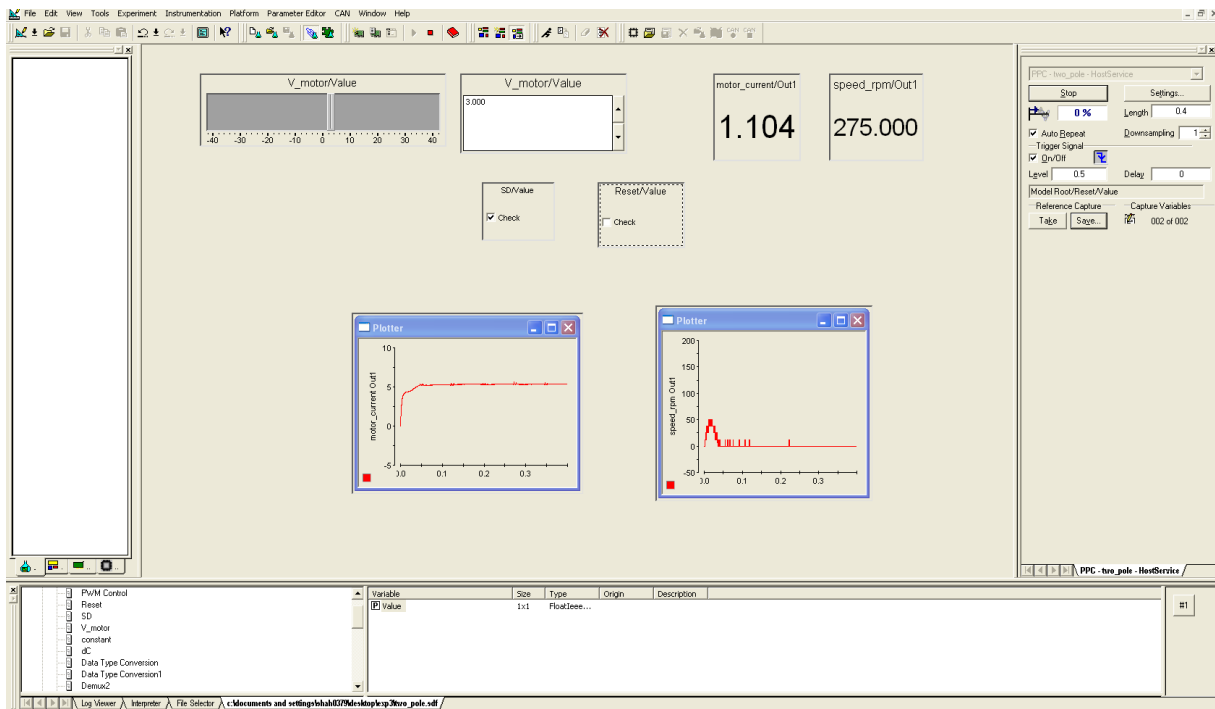

Figure 3.8: Screen shot of dSPACE control desk
5. Now, you will observe that every time you uncheck the Reset control in the layout, the plot area will display the current and it will stop when it reaches the maximum measurement time. The **Length** is set to 0.4. This will set the data capture time as 0.4s which is large enough to observe the whole transient process in current. The screen shots are shown in Fig 3.8 & 3.9.